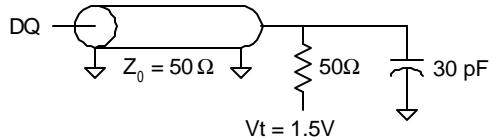

Fig. 1 OUTPUT LOAD EQUIVALENT
Output load	See Figures 1 and 2
5. Test conditions as specified with the output loading as shown in Fig. 1 unless otherwise noted.
15. Capacitance derating applies to capacitance different from the load capacitance shown in Fig. 1 or Fig. 3, for 3.3V or 2.5V I/O respectively